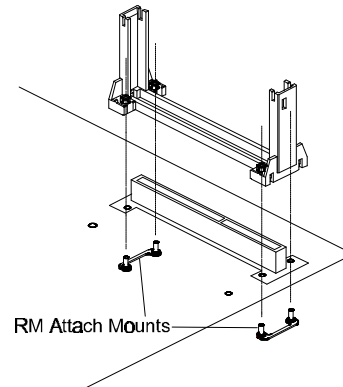
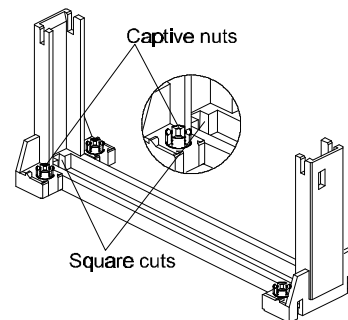

Figure 2-3
Figure 2-4
2. Install two Retention Mechanism Attach Mounts (RMAM) with Bolt/Bridge assemblies inserted up through the bottom of the mainboard. (Notice the RMAM's bridge orientation as Figure 2-3)
3. Insert the Retention Mechanism (RM) around the Slot 1. Be sure the Square Cut Mark of RM (Refer to Figure 2-4) have the same orientation of Slot 1 pin 1. (Refer to Figure 2-3)
4. Screw the four captive nuts (Refer to Figure 2-4) on the RM by a screw drive to secure RM to two RMAMs.